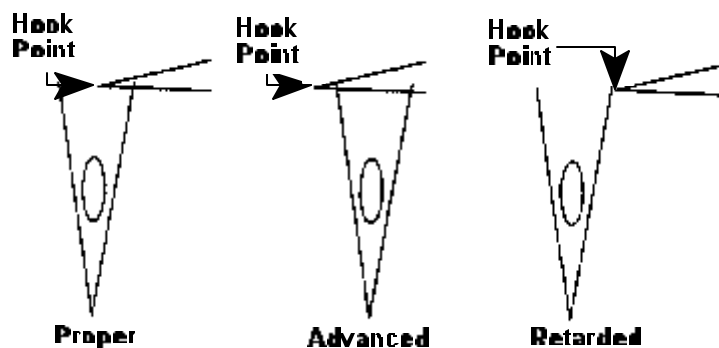

Figure 9
42. Adjust so tip of hook point is behind and in **middle of needle**. See Figure 9.